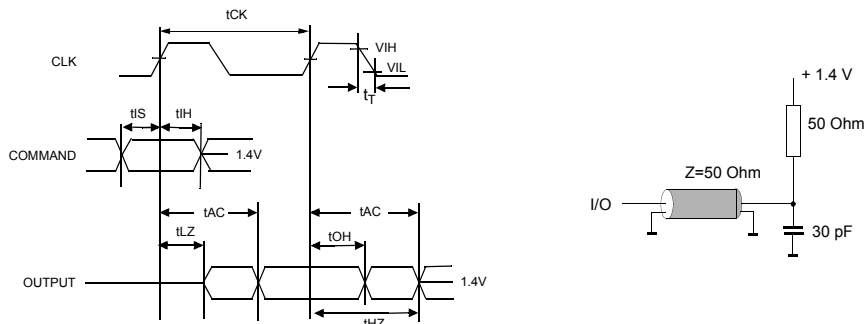

Figure 1.
- AC timing tests have VIL = 0.4V and VIH = 2.4V with the timing referenced to the 1.4 V crossover point. The transition time is measured between VIH and VIL. All AC measurements assume tT = 1ns with the AC output load circuit shown in Figure 1.